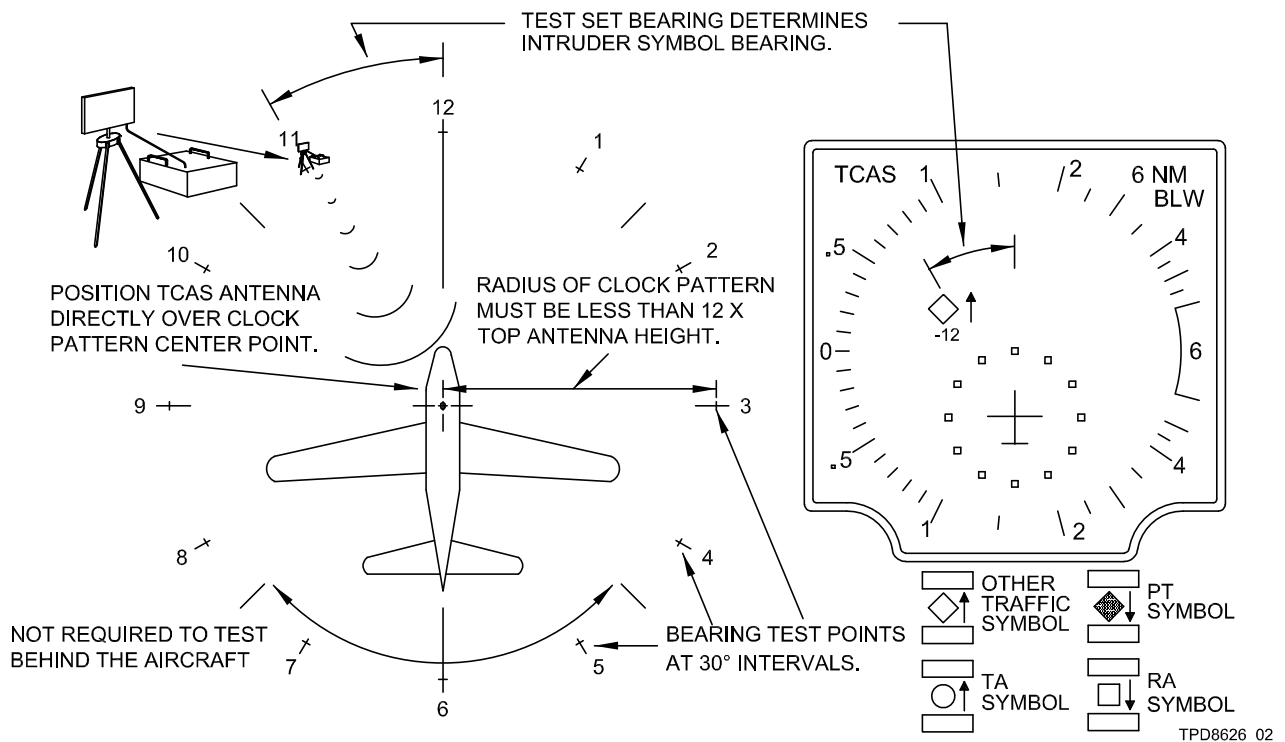

Figure 4-9. Bearing Test, Aircraft and TCAS Test Set Orientation
- (1) Altitude: Same as Traffic Surveillance System aircraft altitude
- (2) Range: 8 nmi. Make sure a stationary PT symbol shows on the display. Make sure the PT symbol is at a relative bearing that is equivalent to the bearing to the test set.
- (3) VS: 0
- (4) Rate: 0.
- d. If a tarmac clock pattern (as shown in Figure 4-9) or a compass rose is available, use it as a reference to position the test set. If not, position the TCAS test set at 45° intervals around the airplane and make sure that the displayed PT-symbol bearing agrees with the bearing to the test set. Use two technicians if possible: one moves the test set around the aircraft, the other one watches the display. The symbol moves about the aircraft symbol with no dropouts and no deviations in bearing that are more than 15 degrees. The center of the rose should be the TCAS antenna, not the center of the airplane. It is not required to test behind the aircraft.